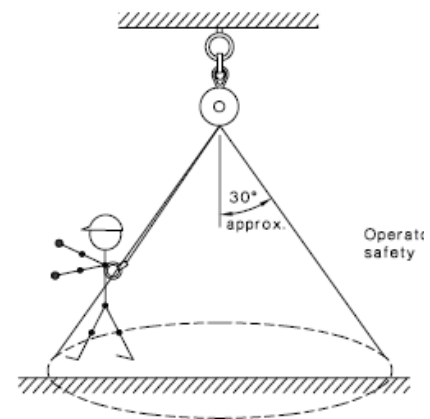

Figure 3 Inertia reel usage requirements
- the device is to be anchored to a point above the user. The anchor point is **not** to be offset by more than 30° from the vertical, or an angle recommended by the manufacturer (see Figure 3)